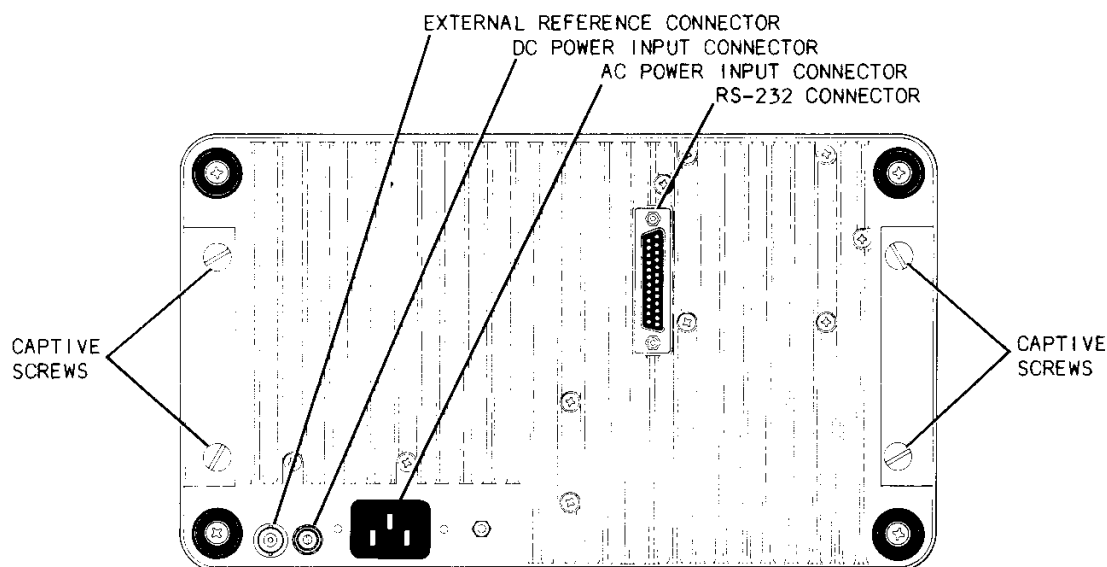

Figure 2-2 FM/AM-1200S/A Rear Panel
1. Loosen four captive screws attaching rear escutcheon to Rear Panel Heat Sink (Ref. Figure 2-2).